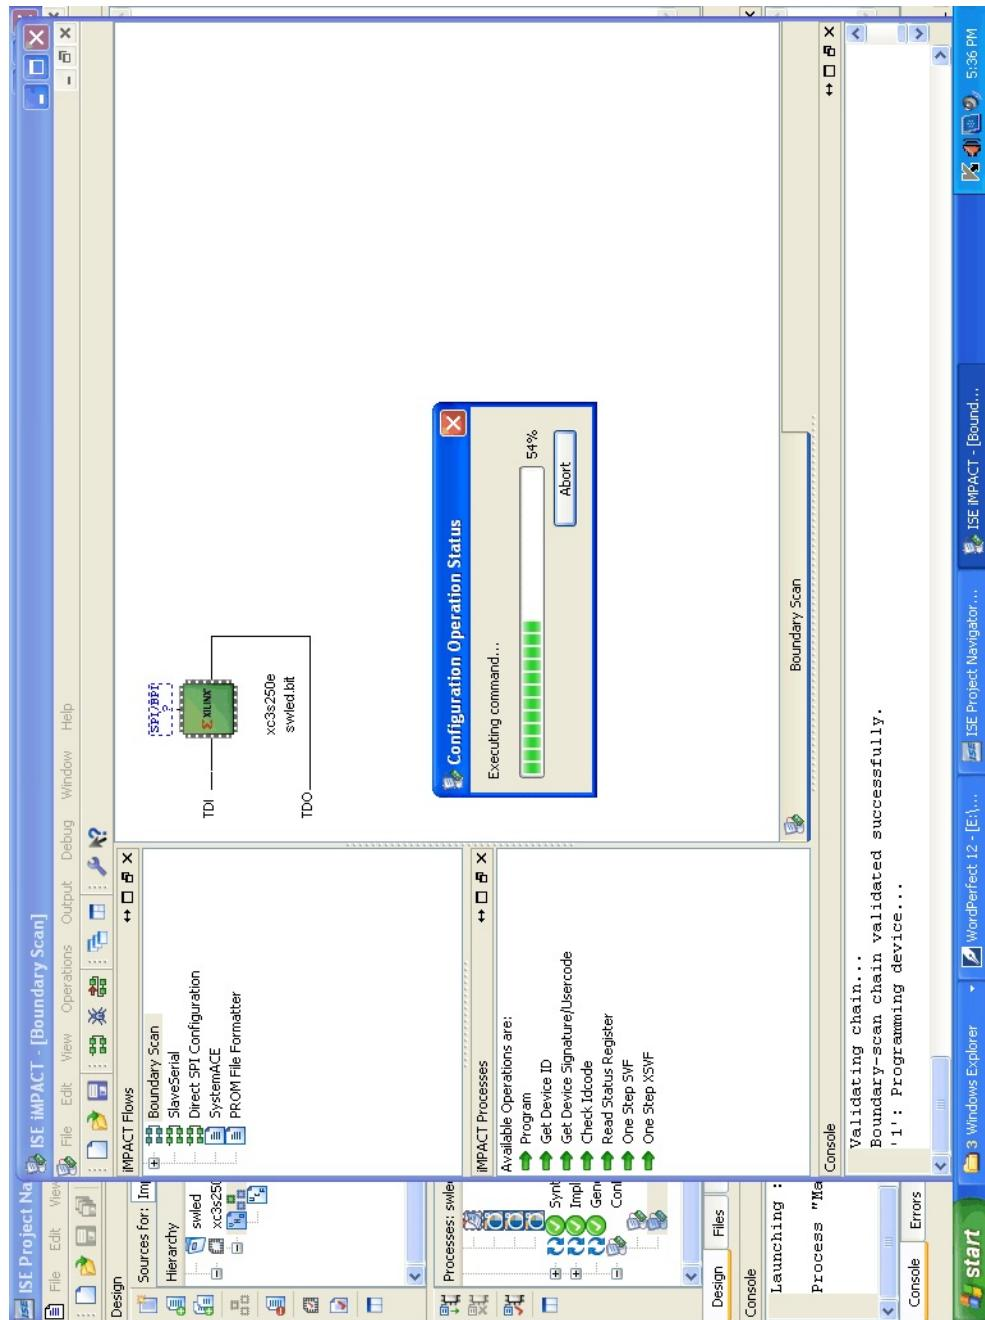
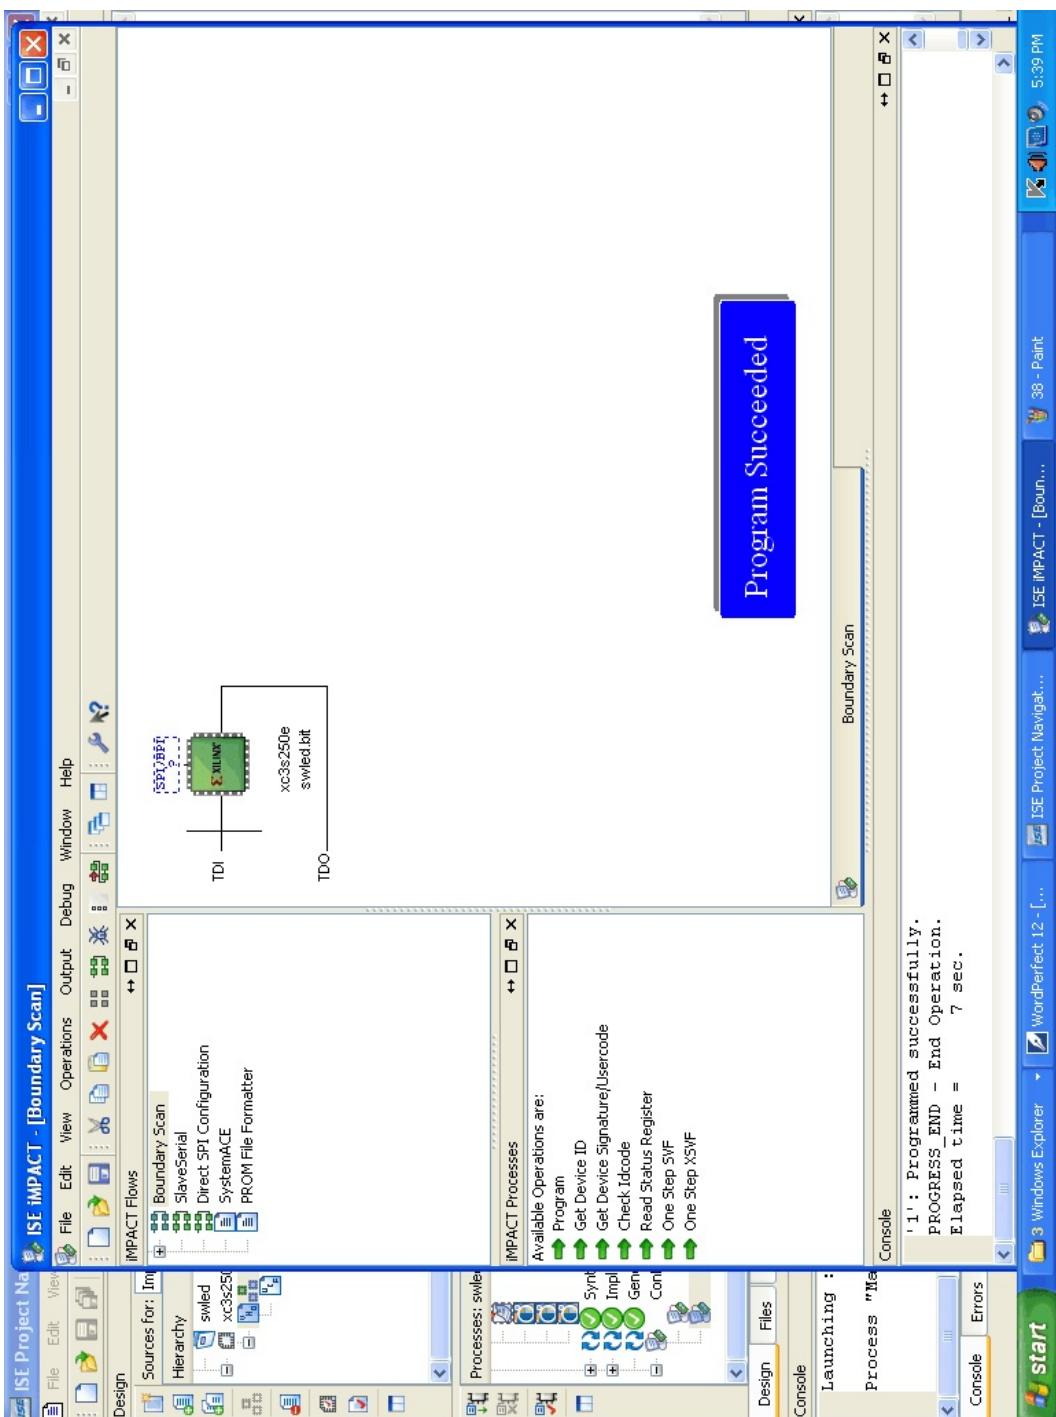

Figure-38
Figure-39
16. Then a window named **Configuration Operation Status** with *percentage level* shown in **Figure-38** will appear and it starts downloading your program into the hardware. After the *percentage level* reaches 100% program is downloaded successfully into the device and the message "**Program Succeeded**" will appear in bold. (refer **Figure-39**).